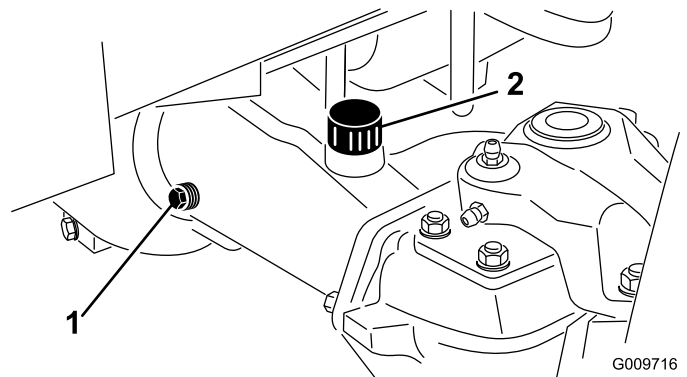

Figure 109
2. Remove a check plug from 1 end of the axle (Figure 109) and make sure that the oil is up to the bottom of the hole. If the level is low, remove the fill plug (Figure 109) and add enough oil to bring the level up to the bottom of the check-plug holes.